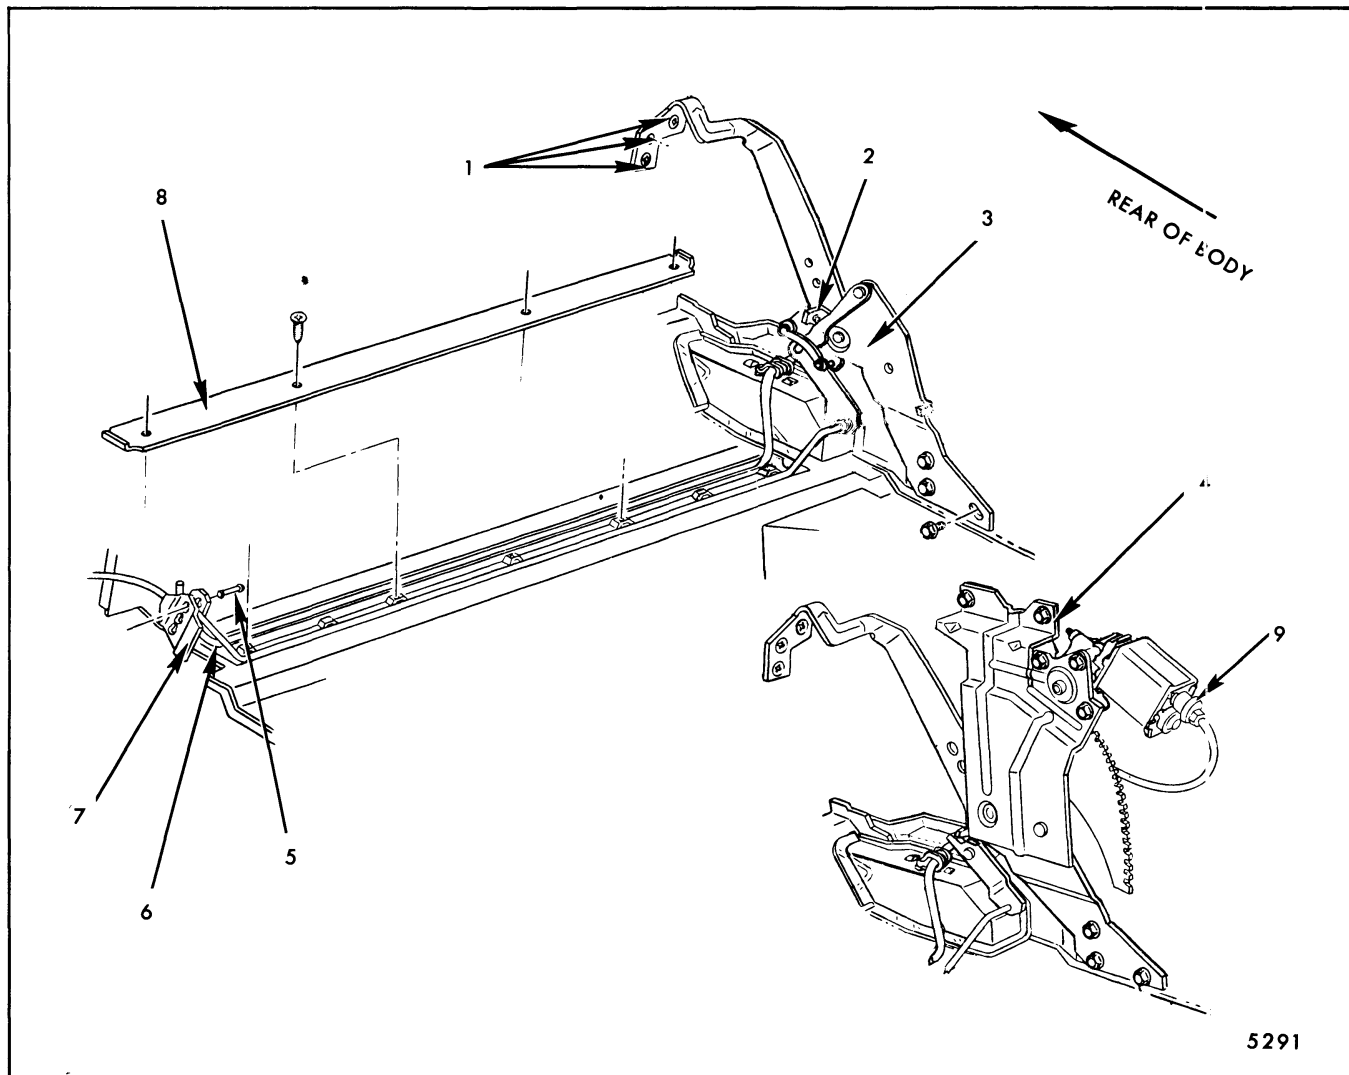

Fig. 7-105-Tail Gate Torque Rod and Hinge Arm Relationship
The tail gate lowers into a storage area beneath the load floor and is guided through the path of its travel by right and left lower guide channel assemblies and a regulator lift arm and hinge at the upper left corner. Simultaneous movement of right and left sides is assured by a synchronizing torque tube assembly. Operating effort is reduced by a torque rod assembly that acts upon the regulator lift arm and hinge (Fig. 7-105).
3. Remove torque rod cover plate screws and remove cover plate (Fig. 7-105).
3. On manual tail gates adjust tail gate drop adjusting screw (Fig. 7-105) if necessary, so that tail
A lift arm and hinge assembly is mounted to the left quarter inner construction and to the left upper inner corner of the gate to provide raising and lowering effort. For power operated tail gates a motor and sector are added to the assembly. The assembly mounting holes are elongated to allow down-forward and aft-upward adjustment to the left side of the gate (Fig. 7-105).
3. Remove regulator lift arm hinge-to-tail gate attaching screws and carefully lower tail gate. On power-operated units, disconnect wire harness at motor terminal (Fig. 7-105).
1. Tighten regulator lift arm-to-tail gate attaching screws securely (Fig. 7-105).
2. Detach wire harness at motor terminal and remove motor-to-regulator attaching bolts. Remove motor (Fig. 7-105).